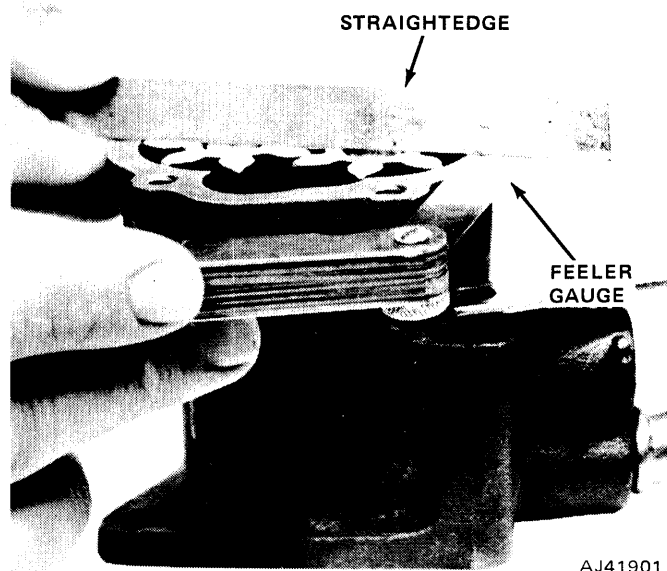

Fig. 1A-33 Oil Pump Gear End Clearance Measurement
- (b) Select feeler gauge which fits snugly but freely between straightedge and pump body (fig. 1A-33). Correct clearance by this method is 0.004 to 0.008 inch (0.007 preferred).